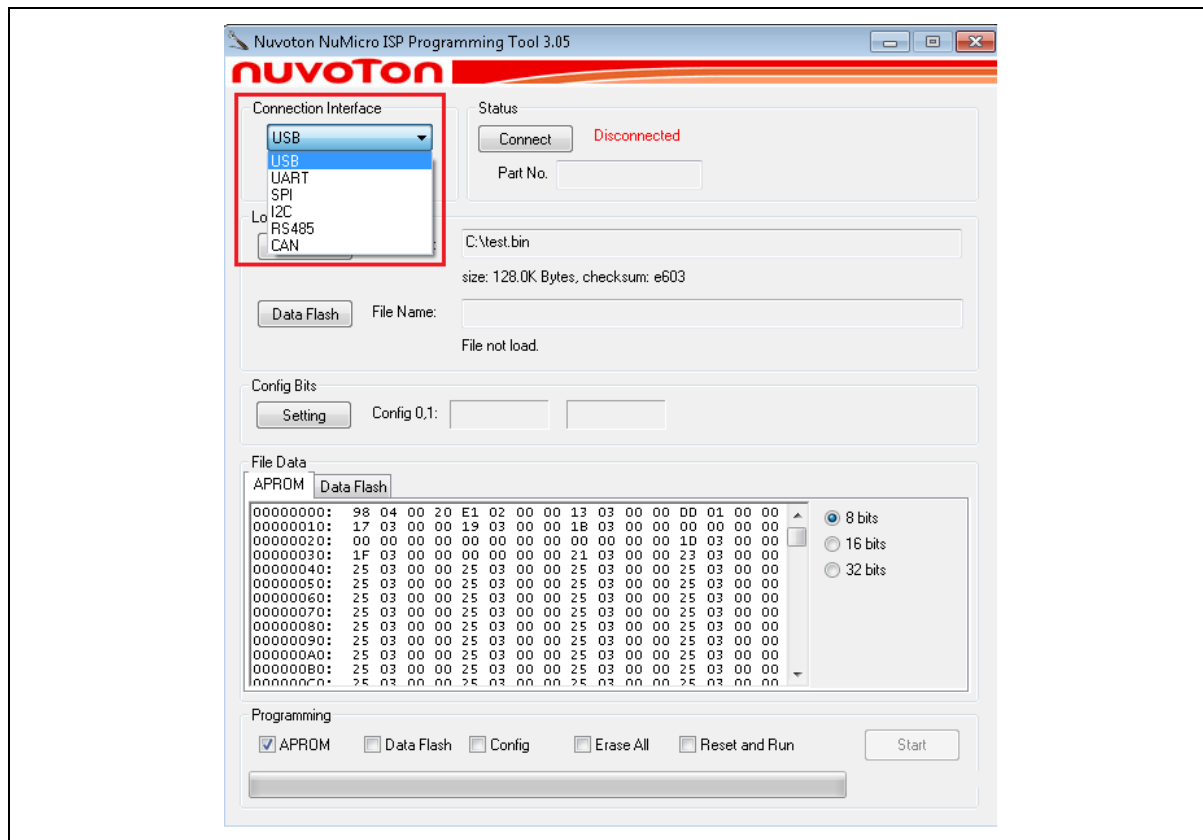

Figure 5.2-47 Startup Screen of ISP Tool
- (1) Download and install Nuvoton NuMicro® ISP Programming Tool.
- (2) Open the ISP Tool, select one connection interface to connect as shown in Figure 5.2-47